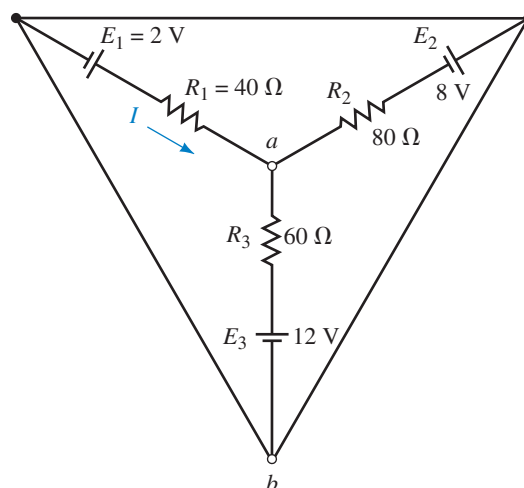

FIGURE 8-84
24. Refer to the circuit shown in Figure 8-84:
- Use mesh analysis to solve for the loop currents in the circuit of Figure 8-84. Use your results to determine I and V_{ab} .